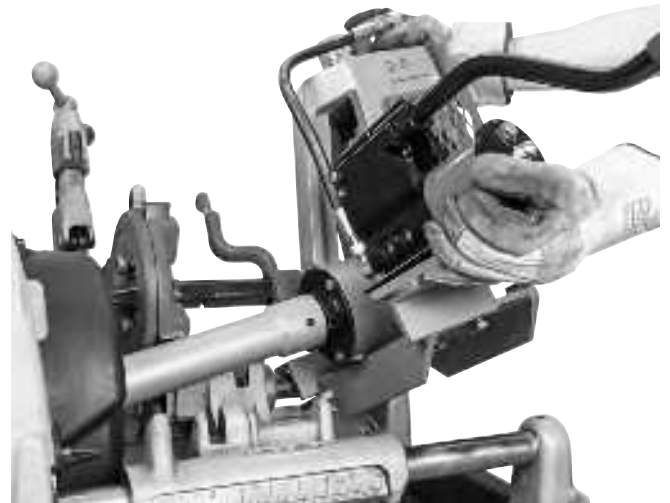

Figure 9 – 918 Roll Groover on 535 Threading Machine Mounting Base
4. With the end of the drive bar in the machine chuck, place the open slot of the base (stabilizer side) over the rear carriage rail and lower the pump to the front carriage rail. *See Figure 9.*